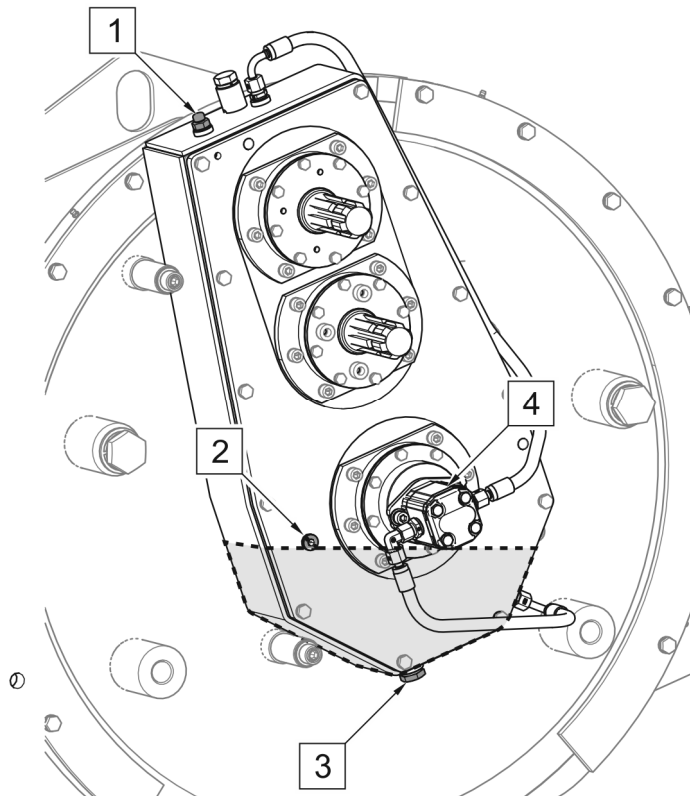

FIGURE 5.1 Checking and change of oil in the main transmission
The main transmission (FIGURE 5.1) is factory filled with gear oil of SAE90 class. The main transmission is equipped with a circulating lubrication system with an oil pump (4).
Transmission maintenance involves periodical checking of oil level and changing oil. To check the oil level in the main transmission (FIGURE 5.1)
It is best to change oil immediately after completing work when the transmission is still hot and impurities are suspended in oil. Before changing oil in the transmission (FIGURE 5.1):